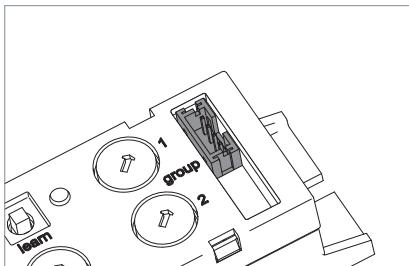

Fig. 3: Wireless module control interface.
- ▶ Connect one end of the connecting line to the "wireless module control" interface on the wireless module, see Fig. 3